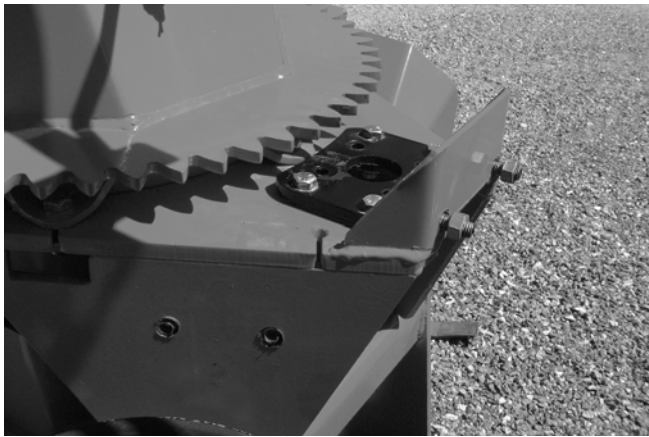

Figure 25
- 2) Install the mounting plate; put the required spacers between mounting plate and base of chute (see p. 35 to 40 for chute model). Do not tighten the bolts immediately, they will be tightened at final adjustment (Fig. 25).